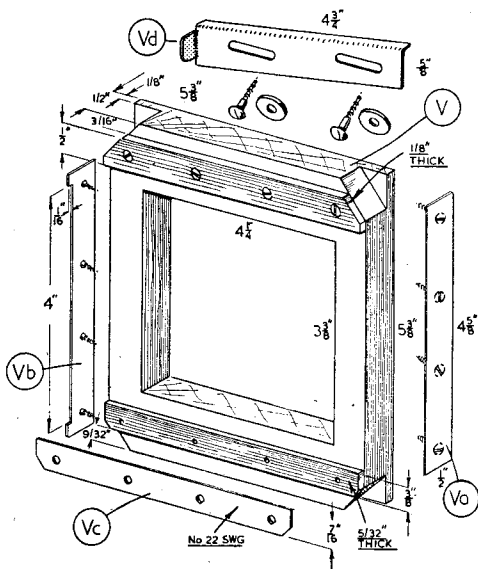

Fig. 51. Details of the reversible back and dark slide holder
As shown in Fig. 51, what is termed a reversible back has been fitted to carry the dark slides; that is to say, the main frame (V) can be removed from the camera and replaced so as to set the dark slide with the long axis of the plate lying either vertically or horizontally. On the other hand, $\frac{1}{4}$ -plate, reflex cameras, suitable for Press work, are usually fitted with a revolving back that can be quickly turned into position. The revolving back rotates on a circular register, and is furnished with click stops for setting the plate. This arrangement could be fitted to the present camera, although adding some complication, and it would be found useful for setting the image exactly vertical on the focussing screen, without having either to tilt the camera or to readjust the position of the object. If this modification is made, it would be better to make the back free to rotate, so that it could be locked in any position by means of a binding-screw.